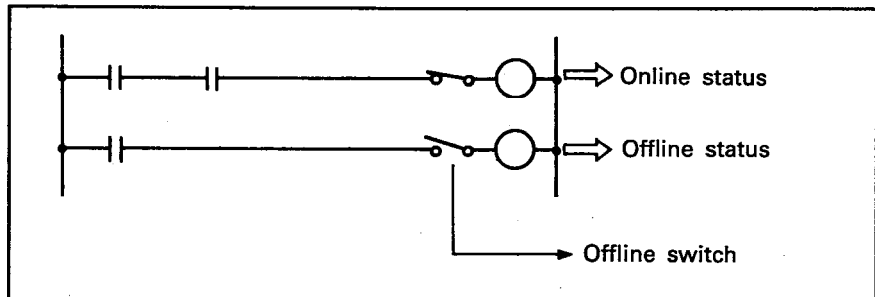

Fig. 4.17 Online/Offline Statuses
(1) Definition
- (b) Online/offline statuses are set when the imaginary offline switches as shown in Fig. 4.17 are closed/opened.